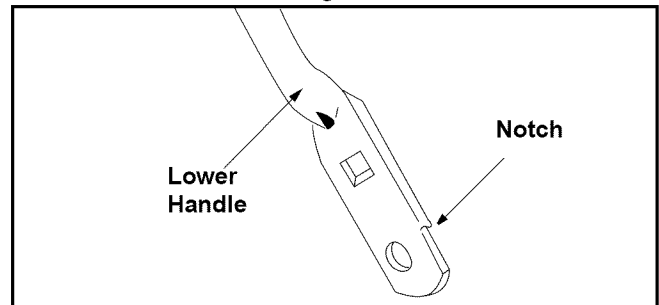

Figure 17
- Turn lower handle around so the notch is facing forward as shown in Figure 17 .